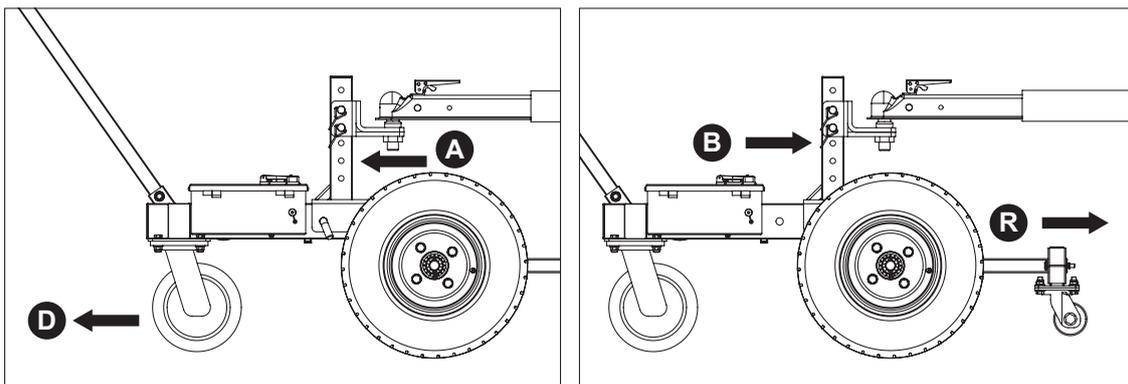

Fig. 8
1. In order to ensure that the dolly operates with the maximum traction and sufficient friction is maintained between the wheels and the ground, please select the appropriate hitch ball position according to the use scenario. As shown in the figure, when the machine travels in the D direction, please put the hitch ball adjusting stem at the Gear A position; when it travels in the R direction, please put the hitch ball adjusting stem at the Gear B position. **(See Fig.8)**